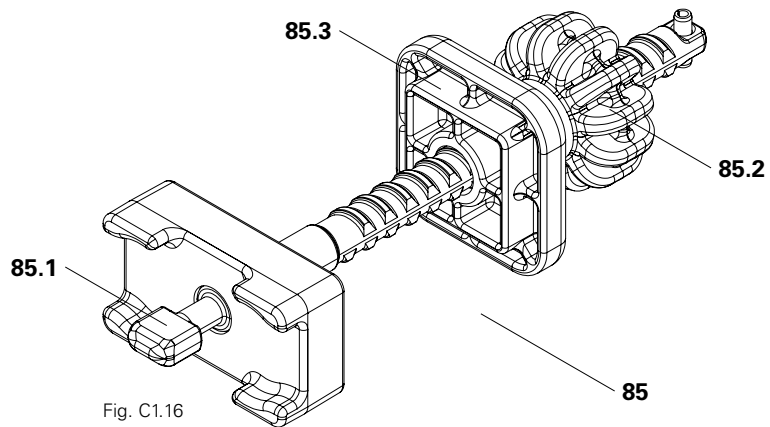

Fig. C1.16
The DUO steel waler connector (85) is used for assembling SRU steel waler universals. (Fig. C1.16)